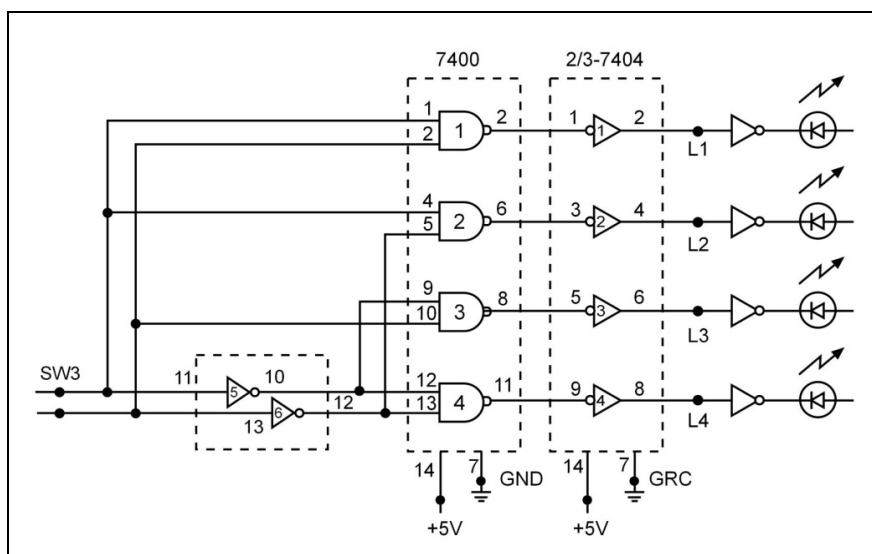

Fig. 1-2 2-4 Line Discrete Decoder
3. Construct the circuit shown in Fig. 1-2. Take your time in constructing this circuit to avoid wiring errors. The circuit inputs are applied through (SW3) and SW4 (LSB). You will observe the outputs on LED indicators (L1) through (L4).